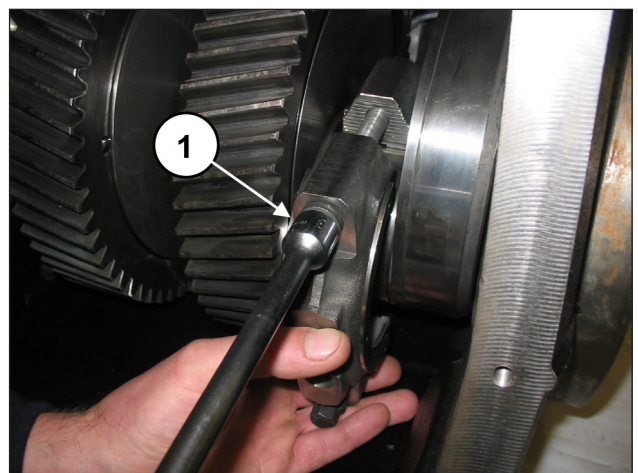

Fig. 83
Fasten the caps to the half supports by means of M12x1.25x87 screws (pos. ①, Fig. 83).